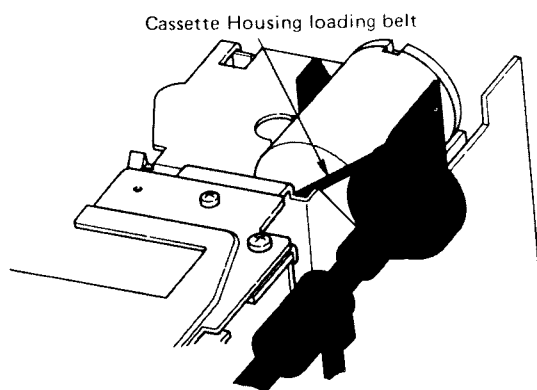

Fig. 3-2
- 4) Remove the cassette housing loading belt as shown in Fig. 3-2.
- 5) Attach the cassette housing loading belt shown in Fig. 3-2.